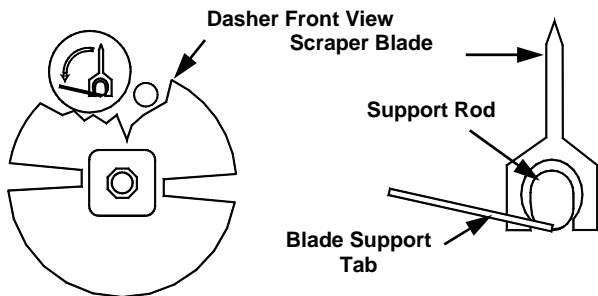
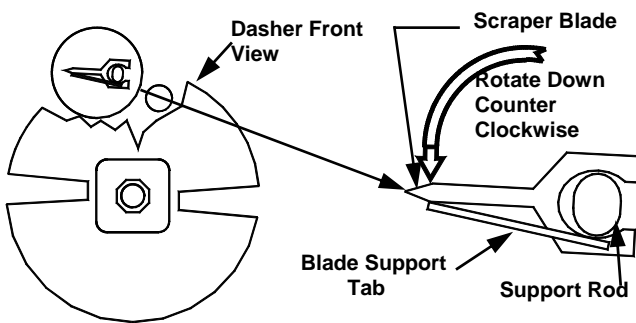

Fig. 14
Fig. 15
- e. Install the scraper blades onto the dasher assembly by holding the blades perpendicular to the tabs (Fig. 14) and then snapping them over the flat area of the support rod. Then rotate the blades downward in a counterclockwise direction as viewed from the front of the dasher (Fig. 15). **BE CERTAIN THAT THE SCRAPER BLADES REST UPON THE DASHER TABS.**